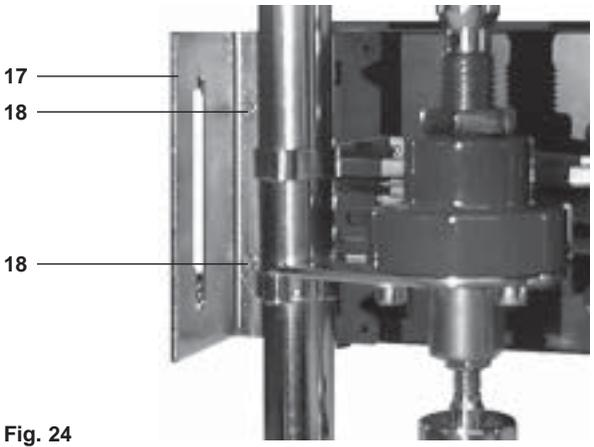

**Fig. 23**
**5.1.10** Present the positioner to the mounting plate (1) engaging the connecting lever pin (6) into the top slot of the connection arm (3), ensuring that pressure from the lever spring (4) is acting down onto the connection lever pin (6). Attach positioner mounting plate (1) to the positioner casing using the 2 off M8 hexagon headed screws (9) and spring washers (10) and tighten to 18 - 20 N m (refer to Fig. 23). Care should be taken not to over tighten.